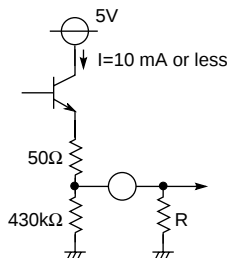

Fig. 2
5. The R, G and B output pins (pins ㉗, ㉘ and ㉙) are as shown in Figure 2. Pull-down resistance can be added to between GNDs according to the driving capability. However, set the R value to limit current I to 10 mA or less. In Figure 2, R is 500Ω or more.